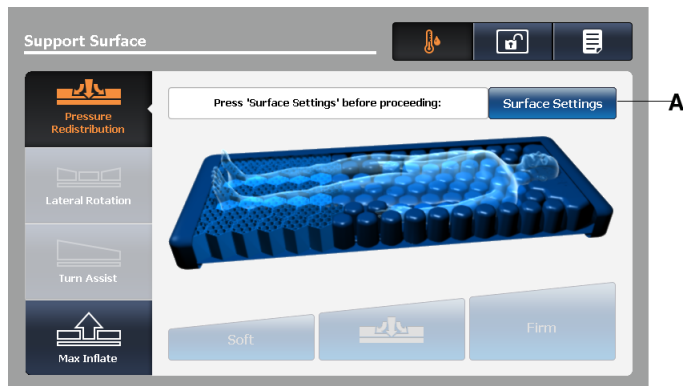

Figure 48: Pressure redistribution screen
Tap **Surface Settings** on the Pressure Redistribution screen (A) (Figure 48 on page 63).